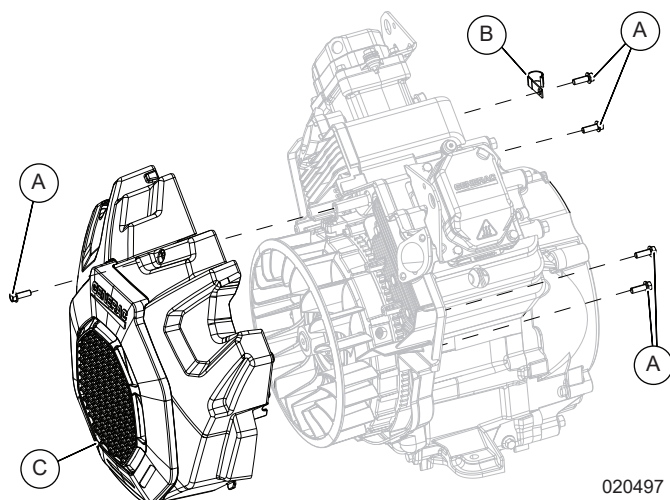
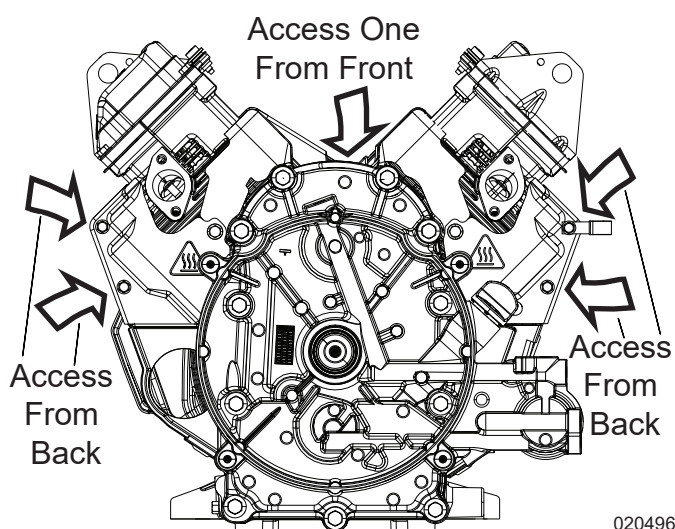

Figure 12-15. Install Blower Housing
Figure 12-16. Blower Housing Fastener Location
1. See Figure 12-15 and Figure 12-16. Install blower housing (A) by fastening it to cylinder wrappers using five fasteners (C). Install j-clip (B) to area noted using appropriate blower housing fastener.